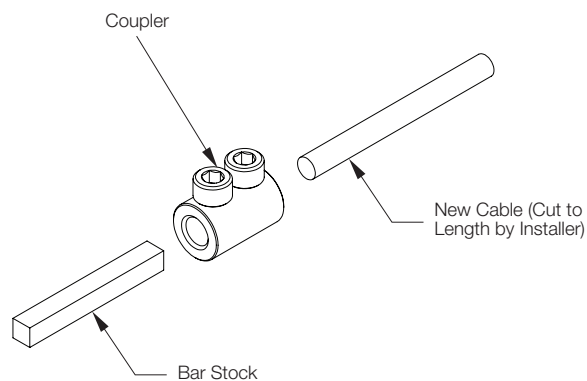

Figure 2
6. Attach the coupler to the other end of the cable. (Fig. 2) If the cable tubing interferes with attaching the cable to the coupler, additional trimming may be necessary.
8. Adjust the damper as needed using a 3/16 in. (5) socket or wrench.